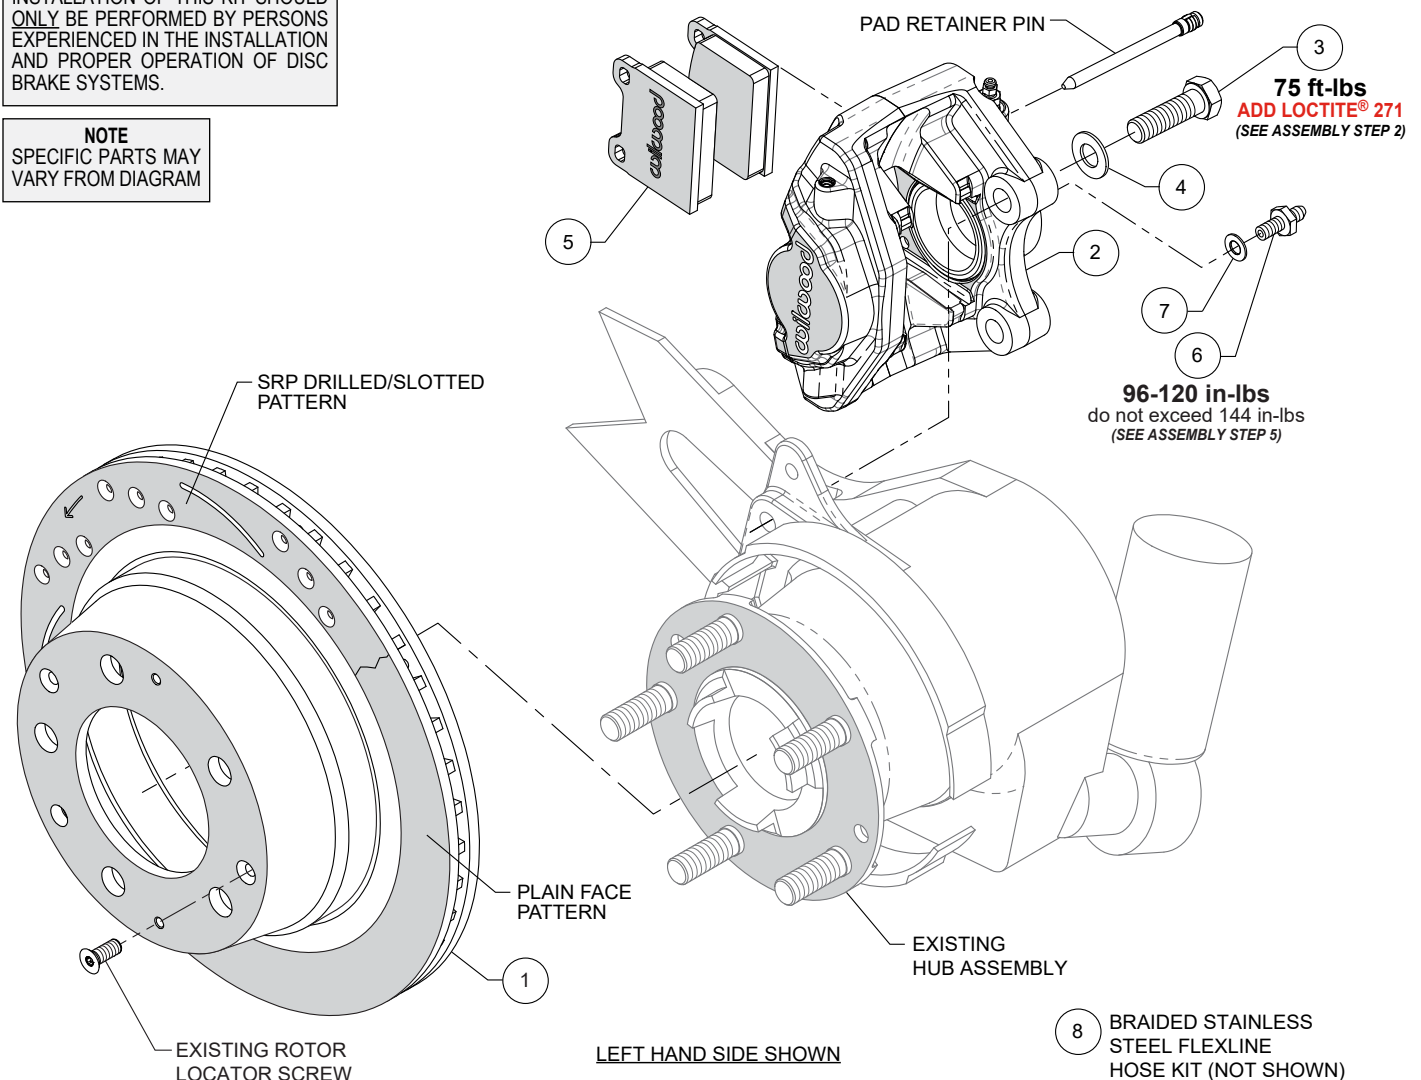

Figure 1. Typical Installation Configuration
**NOTE:** Numbers in parenthesis refer to the parts list and Figure 1 on the preceding pages.
**STEP 1** Slide the rotor (1) onto the axle hub. **NOTE:** The rotor must fit flush against the hub flange or excessive rotor run out may result. Install the OEM rotor locator screw to keep the rotor in place while continuing with the installation, Figure 1.
**STEP 2** Mount the caliper (2) onto the OEM caliper mounting bosses of hub using bolts (3) and washers (4), as shown in Figure 1 and Photo 1. Apply red *Loctite*® 271 to bolt threads, and torque to value shown in Figure 1.
**STEP 3** Remove the pad retainer pins from the caliper. Insert the brake pads (5) into the caliper, with the friction material facing the rotor, Photo 2. Secure the brake pads in place with the pad retainer pins, Photo 3. **CAUTION:** Ensure pad retaining pins are completely engaged into caliper. It is recommended to use a small flat punch and hammer to tap the pins in until they are fully seated.
**STEP 5** Attach supplied brake line to caliper. **NOTE:** OEM rubber brake hoses generally cannot be adapted to Wilwood calipers. Install Wilwood's stainless steel braided flexline hose kit (8), p/n 220-17551, included with this kit. A new grommet for the flexline is included (arrow, Photo 5). Orient flexline as shown in Photo 5 and mount to OEM chassis bracket using new chassis adapter fitting and retainer clip. Connect to caliper using caliper adapter fitting (6) and crush washer (7), as shown in Figure 1 and Photo 4. Do not use thread sealant on caliper adapter fitting. Torque to minimum value shown in Figure 1. Check for leakage, increasing torque only to stop leakage without exceeding maximum specification. Replace crush washer whenever reassembly is required. **Ensure hoses are routed to prevent contact with moving suspension, brake or wheel components.**